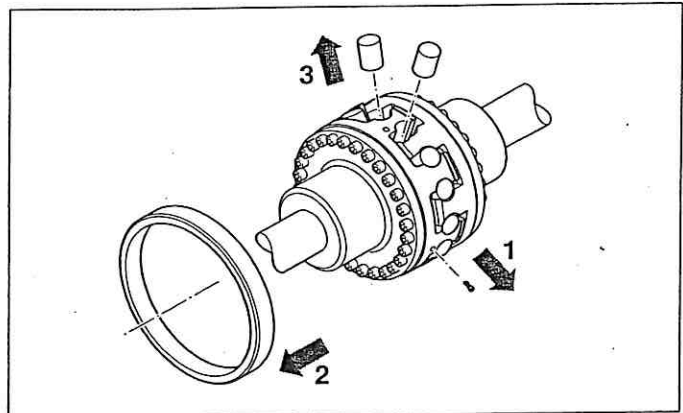

Fig. 9
- Undo the three cheese-head screws around the claw ring (Fig. 9, Item 1).
- Slide the holding ring over the claw ring and flange hub (Fig. 9, Item 2).
- Remove the elastic buffers (Fig. 9, Item 3)